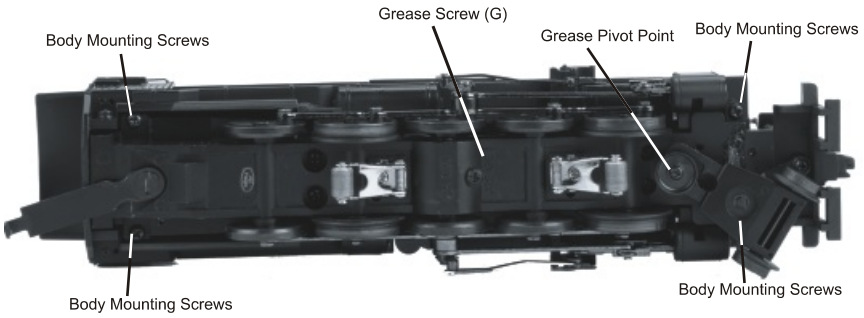

Figure 6. Removing the Body and Lubricating the Grease Points
You should also grease the leading and trailing locomotive truck tongues to enhance their ability to slide on the chassis. Follow the grease points shown on Fig. 6.
1. To replace the headlight in this model you will need to follow the disassembly instructions for greasing the engine in figure 6 on pg. 13. Once the boiler has been removed you can access the headlight(see figure 8).
If you experience poor or no smoke output when the smoke unit is on and has fluid, check the wick to see if it has become hard, blackened, and unabsorbent around the heating element. To remove the smoke unit you will first have to remove the boiler shell (by removing the body mounting screws shown in Fig 6 on pg. 13). To do this, follow these instructions: